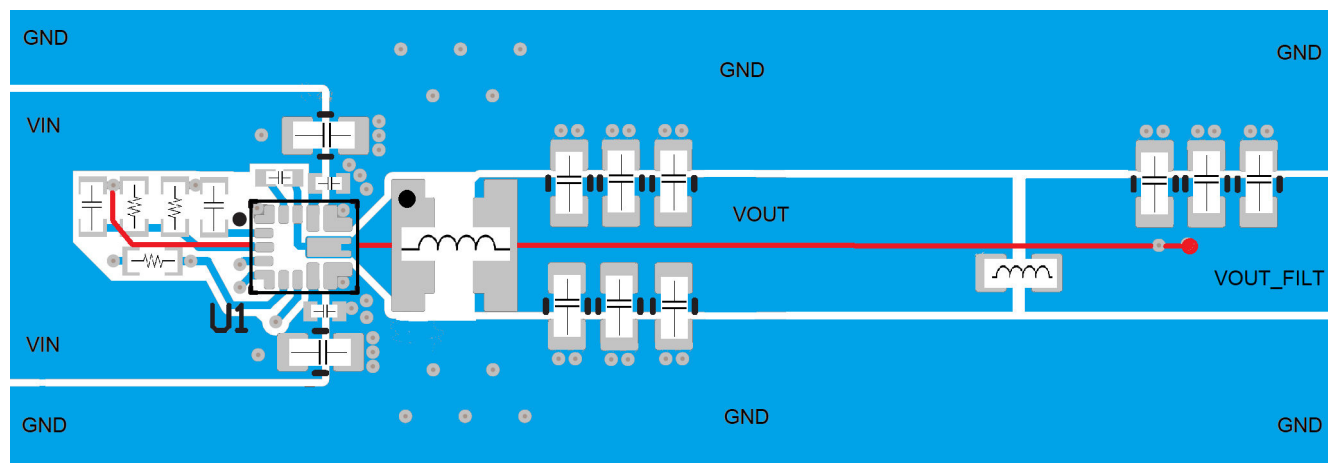

図 7-15. Recommended Layout for Design with Second L-C Filter
- Avoid placing the ferrite bead in the keep out region as shown in 図 7-15
- See the recommended layout implemented on the EVM and shown in the EVM user's guide, TPS62968 Step-Down Converter Evaluation Module User's Guide, as well as in 図 7-15.